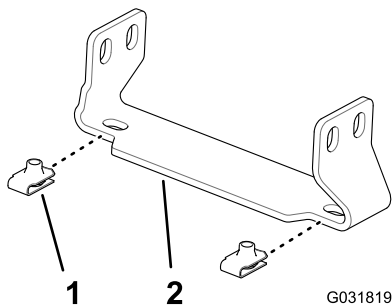

Figure 149
1. Install the 4 clip nuts (Toro Part No. 94-2413) onto the 2 support bracket of the center-section cover (Toro Part No. 131-3703-03) as shown in (Figure 149).